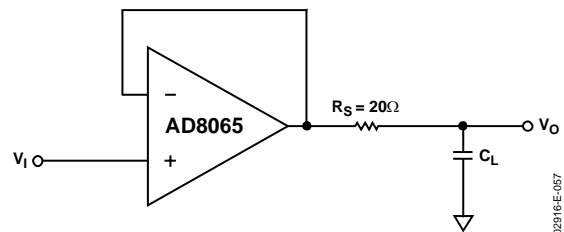

Figure 57. Output Isolation Resistor
- As shown in Figure 57, put a small value resistor (R_S) in series with the output to isolate the load capacitor from the amp's output stage. A good value to choose is $20\ \Omega$ (see Figure 10).